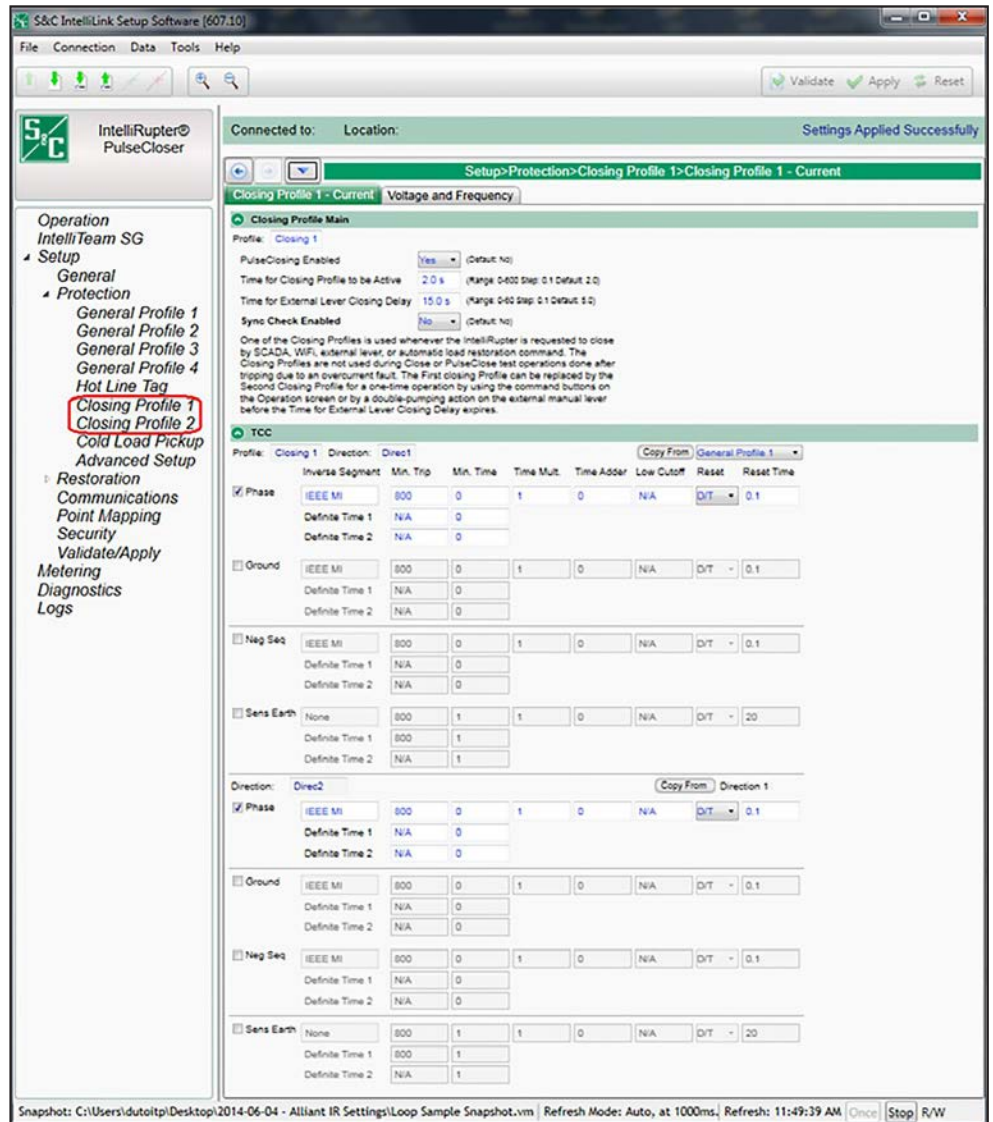

Figure 84. The Setup>Protection>Closing Profile 1>Closing Profile 1 - Current screen.
STEP 12. Configure the **Closing Profile** modes. See Figure 84 on page 169.